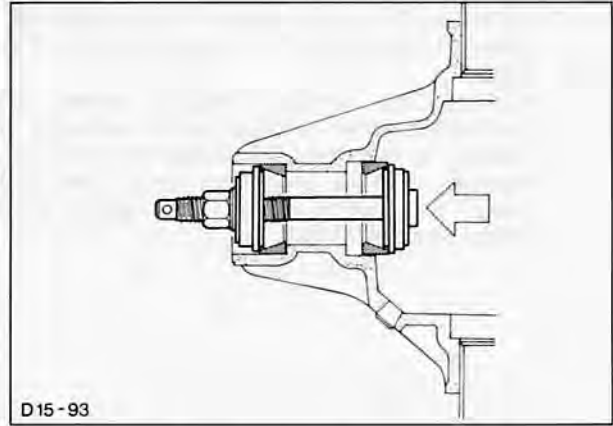

Fig. 30. Remove outer drive pinion bearing cup with special tool no. 15-035 15-064
12. Remove and re-install outer bearing cup of drive pinion taper roller bearing with Special Tool, Fig. 30.